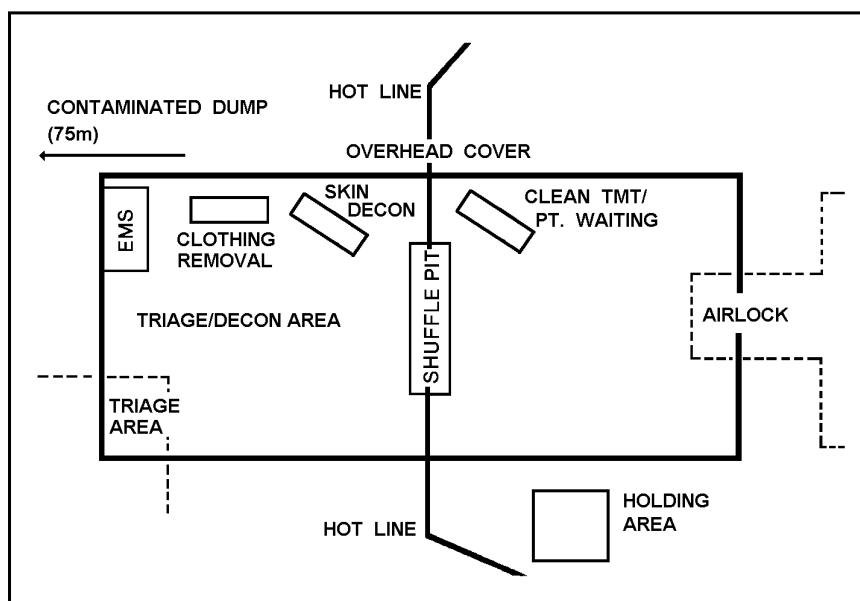

Figure 3-72
2. Set up the decontamination area. (See Figure 3-72.)